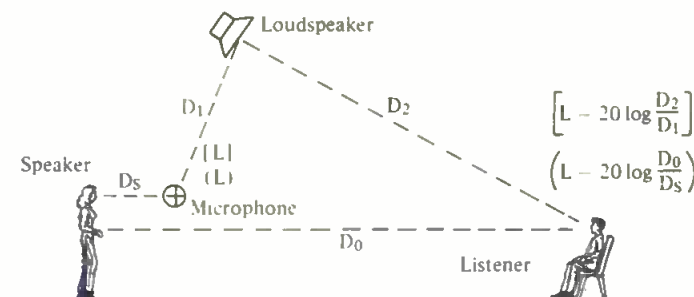

Figure 2. Details of an outdoor sound reinforcement system. Levels in parenthesis are with the system off; levels in brackets are with the system on.
During the sixties, Paul Boner provided a simple analysis of the gain of a sound reinforcement system (2) and pioneered the concept of narrow-band system equalization in order to minimize acoustical feedback. Because it is so instructive, we present in a modified form Boner's derivation of the equation which yields the maximum gain of a sound system. In FIGURE 2, we show a simple outdoor reinforcement system. The gain of a reinforcement system is defined as the *increase* in level perceived by a given listener when the system is turned on, as compared to the level he hears when the system is off. Let us assume that a talker produces some arbitrary level L dB at the microphone. With the system turned off, the level at the listener will be, by inverse square law attenuation: